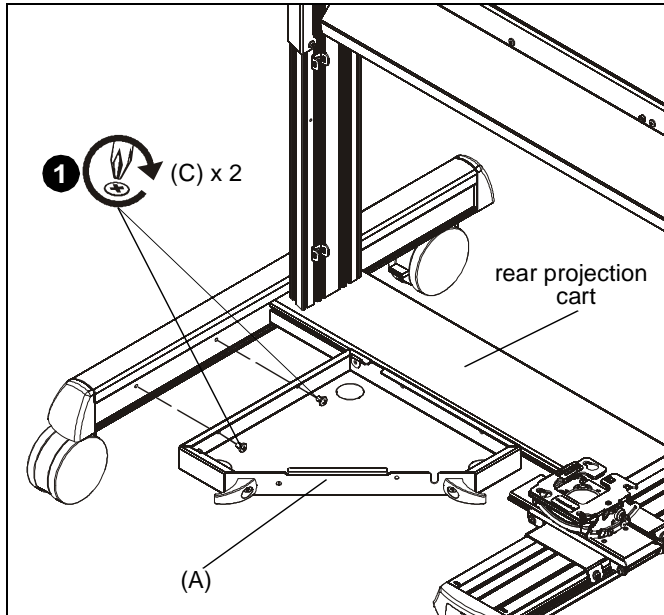

Figure 1
1. Use two 1/4-20 x 3/8" Phillips pan machine screws (C) to attach shelf (A) to cart leg. (See Figure 1)